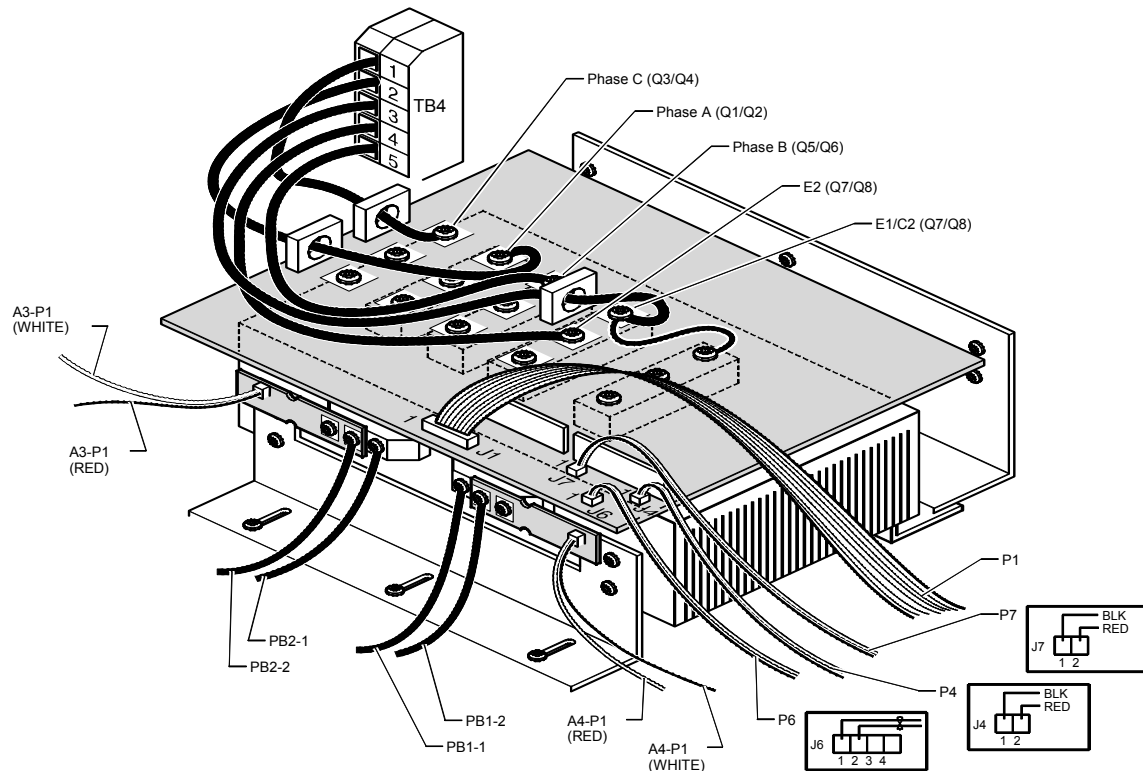

Figure 6-1. Heat Sink Assembly
3. Figure 6-1). Verify that all cables and connectors have labels and are identified as shown. This is important for reinstalling the assembly.
7. Figure 6-1).
10. Figure 6-1).